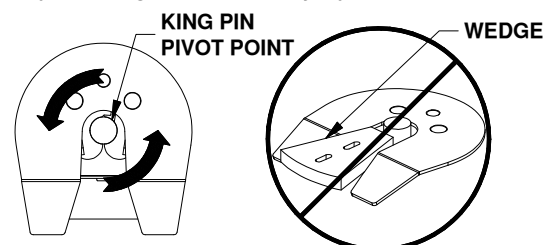

Figure G1: Top view of coupler head. Figure G2: Coupler Head with locking wedge. Reese® is a registered trademark of Cequent performance products.
**WARNING:** Do not use the Slider 5th Wheel Hitch with any device that changes the location of the king pin pivot point. The king pin on your trailer must rotate in the jaws of the Slider Coupler, see Figure G1. Preventing the king pin from rotating within the jaws of the Slider Coupler with a wedge, see Figure G2, or any other device, such as a Reese Sidewinder® or Reese Revolution®, could result in property damage, serious injury or death.